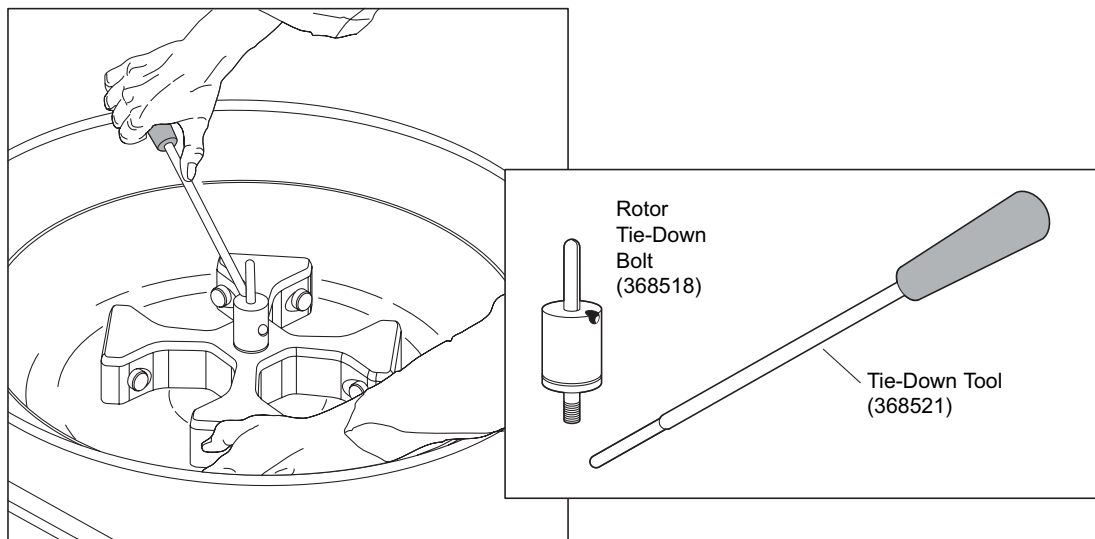
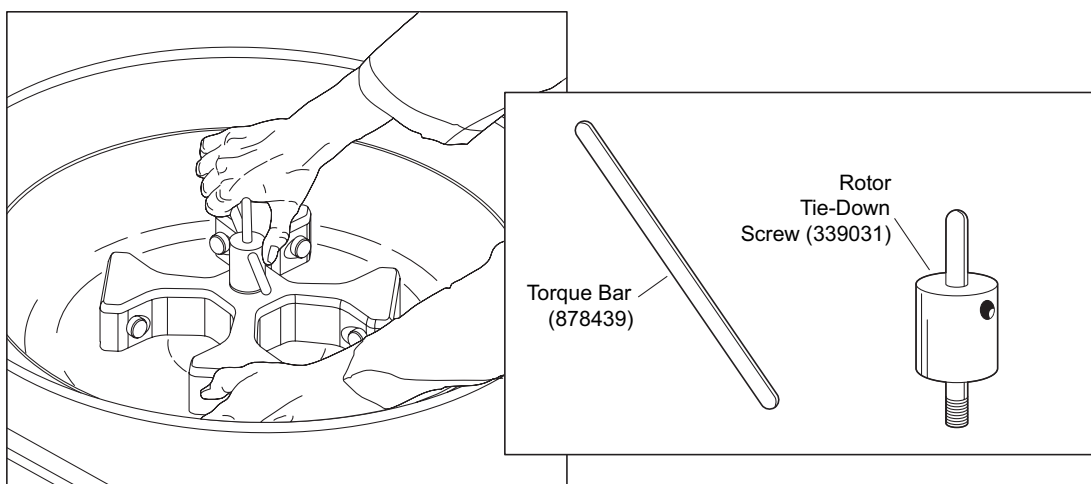

Figure 3. Using the Tie-Down Bolt and Tie-Down Tool to Tighten the Rotor onto the Drive Hub
Figure 4. Using the Tie-Down Screw and Torque Bar to Tighten the Rotor onto the Drive Hub (Older Rotors)
2. After the rotor is properly seated, secure it to the drive hub with the tie-down bolt (368518). Tighten the bolt with the tie-down tool (368521), then remove the tool. This system is shown in Figure 3. Older rotors may have a tie-down screw (339031) which is tightened with a torque bar (878439), as shown in Figure 4.